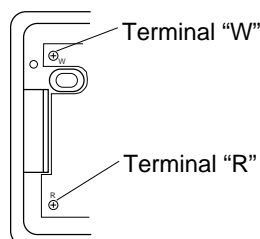

Figure 24 - Thermostat Base Terminal "W" and "R"
7. Connect one bare wire end to each terminal ("W" and "R") of the thermostat base (see Figure 24).